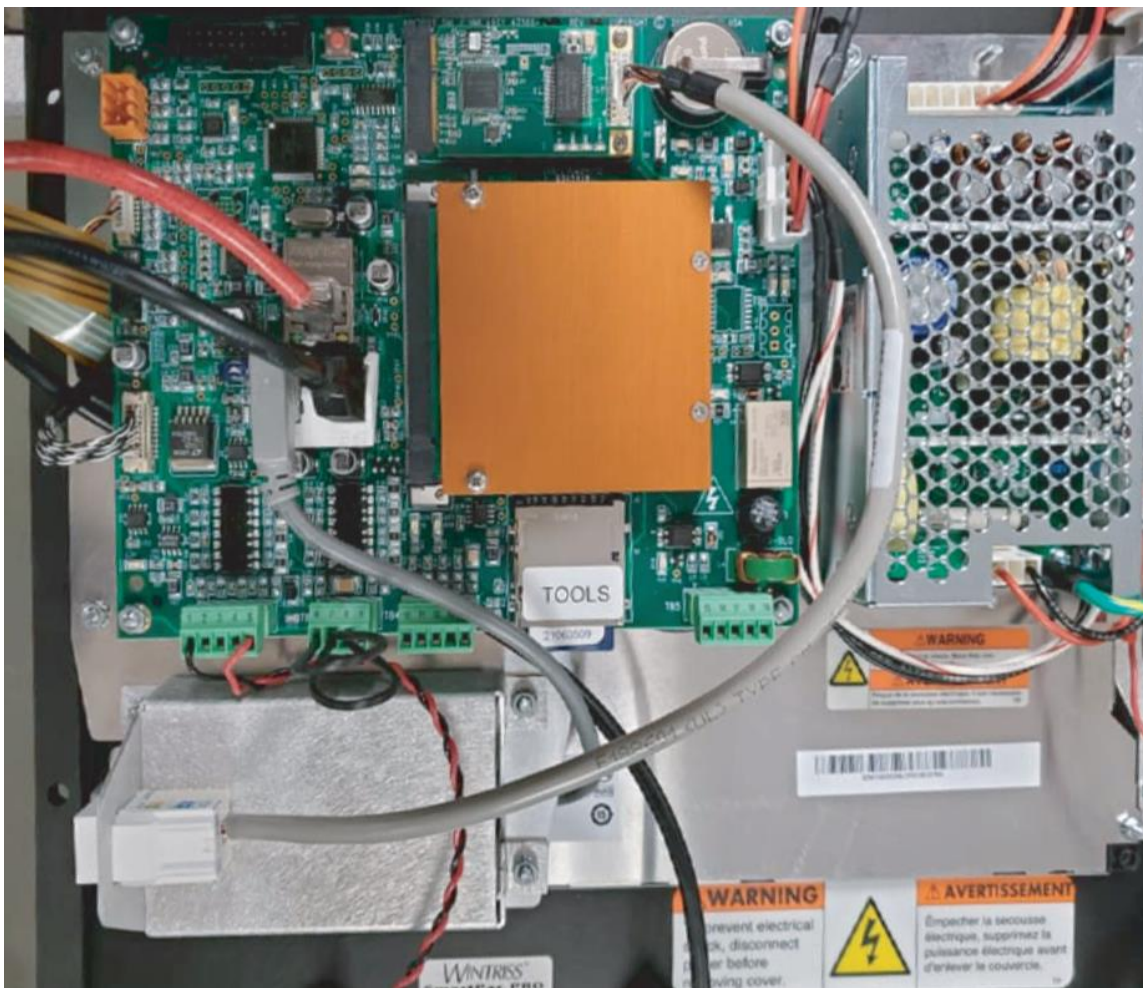

Figure 4. Mini PCIe Module Pigtail with RJ45 Socket Installed into USB Extender Flange
- 5.) Next, connect the RJ45 pigtail to the J1 Connector on the module, insert the RJ45 connector in the mounting flange available on the USB extender below the HMI board as shown in Figure 4 below.